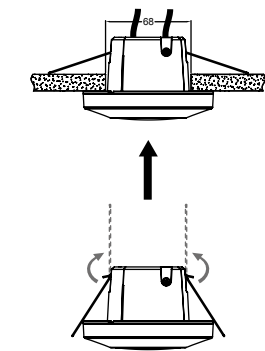

FIG. 10
4. Then place the sensor in the drilled hole in the ceiling (FIG. 10).